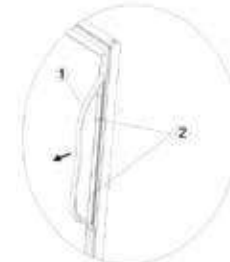

Fig: 1
- 1) Pull away the door gasket in the area where the handle is to be installed on the left side as shown below in Fig1. The gasket is easily displaced by hand, no tools are necessary.